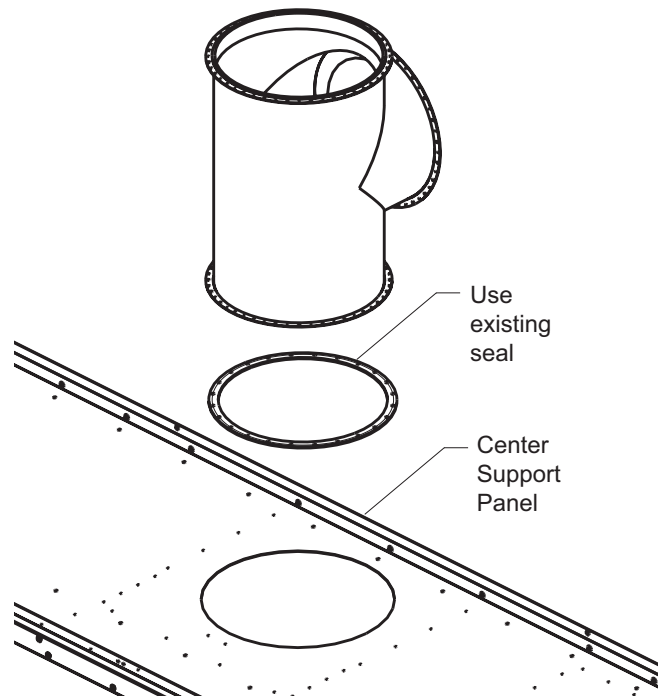

Fig. 5: Installing the Flue Exhaust Tee
1. Position the exhaust tee on top of the gasket so that the fastener holes align to ensure a proper seal (see Fig. 5).